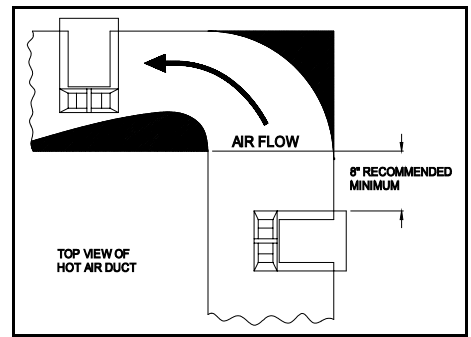
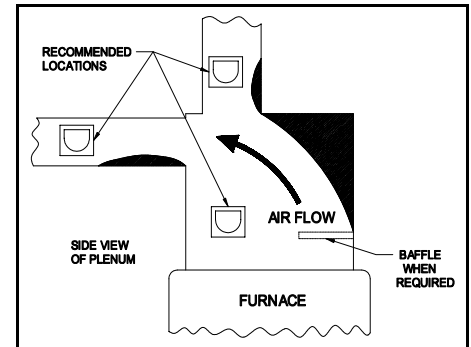

Figure 1
Figure 2
Refer to Figure 1 and Figure 2 for suggested humidifier locations. Do not install in a turbulent or dead air space. In installations where more than one humidifier is used do not place them in a position so that one obstructs the air flow of the other.
1. Locate the humidifier as close to an existing water pipe as possible. (DO NOT INSTALL SADDLE VALVE on any water pipe which is downstream from a water softener.) Insert baffle if air flow is not directed properly to make turbine and evaporator revolve. See Figure 2